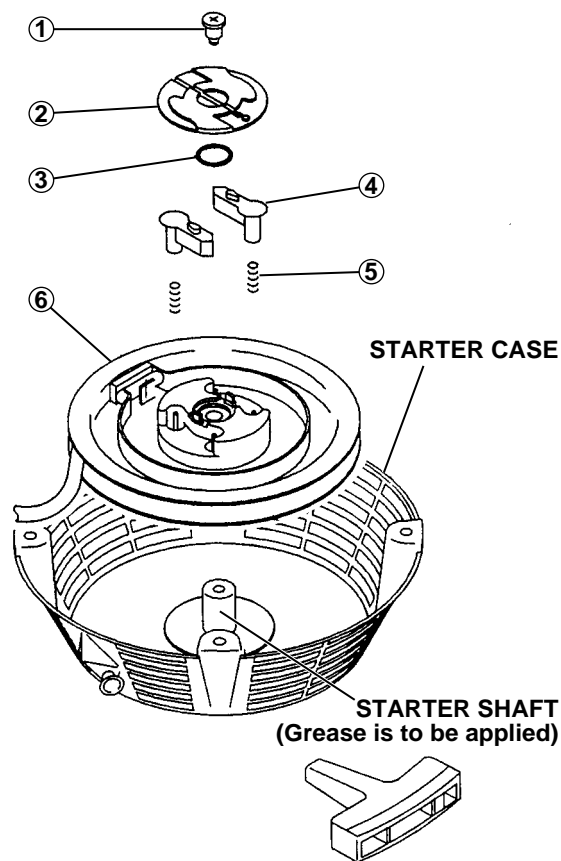

Fig. 9-3
(5) Remove each part in accordance with Fig. 9-3
Reassemble the parts in reverse order of disassembling shown in Fig. 9-3.